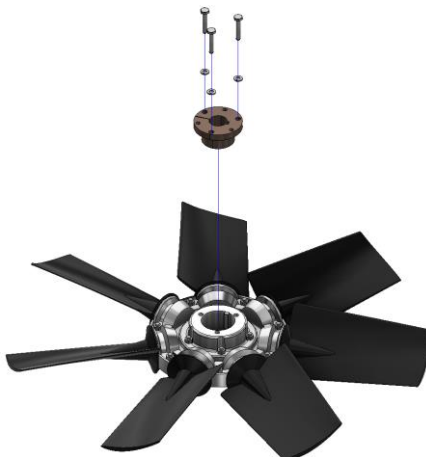

Figure 5 - Exploded View Showing Bushing Installation Into Fan Blade Assembly
- Tighten the three bolts on the bushing to secure the fan blade assembly to the shaft as shown in Figure 5.